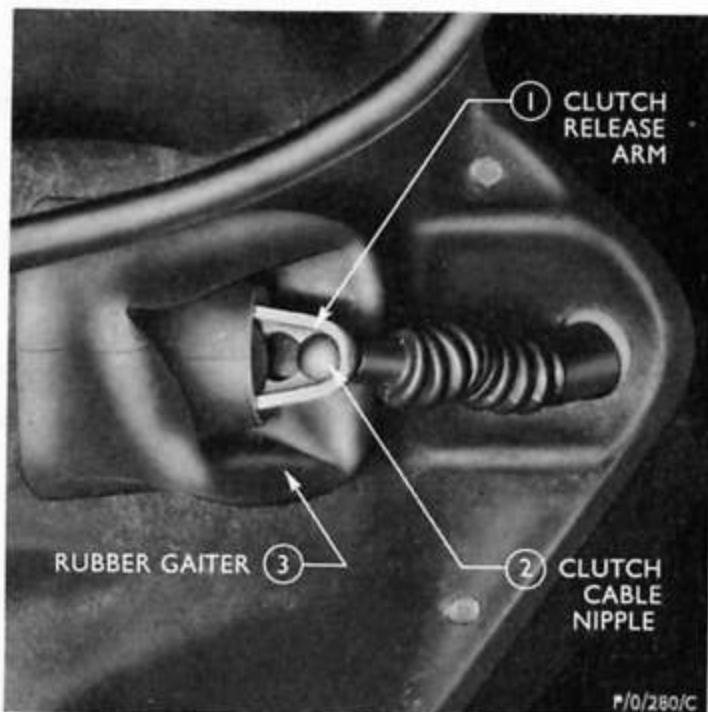

Fig. 24
2. Disconnect the lower end of the cable from the clutch release arm underneath the vehicle by withdrawing it through the larger of the two holes in the arm (see Fig. 24).